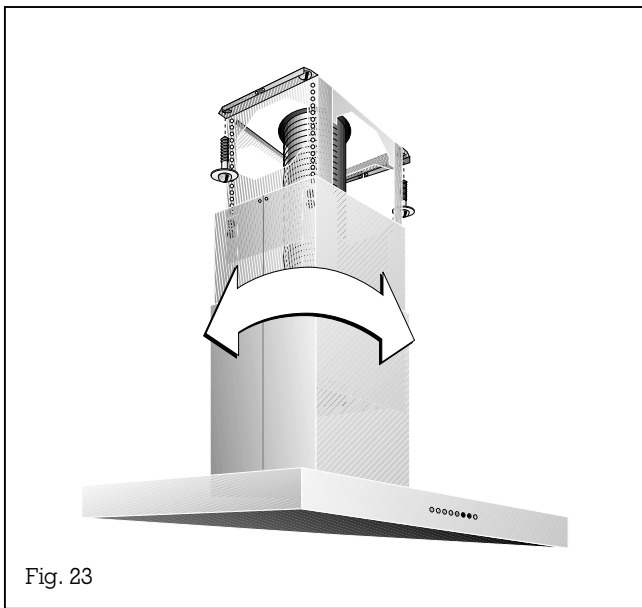

Fig. 23
11. Adjust the hood to the final position and attach it with all 4 screws to the ceiling (Fig. 23).